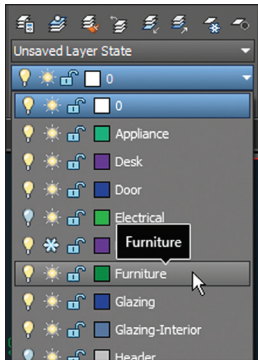

FIGURE 6.6 Setting Furniture as the current layer using the drop-down menu in the Layers panel
4. If you plan on drawing more than one object, a more efficient approach is to set the current layer before drawing so that the new object will have the proper layer assignment automatically. Open the Layer drop-down menu in the Layers panel and click on or to the right of the word *Furniture* to set this layer as current (see Figure 6.6).